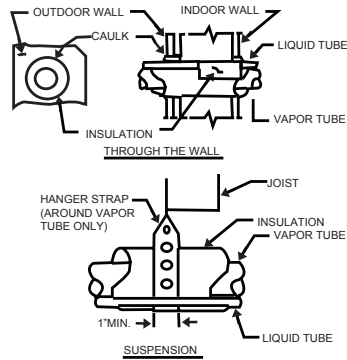

Fig.22 Connecting Tubing Installation
5. When passing refrigerant tubes through the wall, seal opening with RTV or other pliable silicon-based caulk. (See Fig. 22.)
7. Do not suspend refrigerant tubing from joists and studs with a rigid wire or strap which comes in direct contact with tubing. (See Fig. 22.)
9. When necessary, use hanger straps which are 1 in. wide and conform to shape of tubing insulation. (See Fig. 22.)